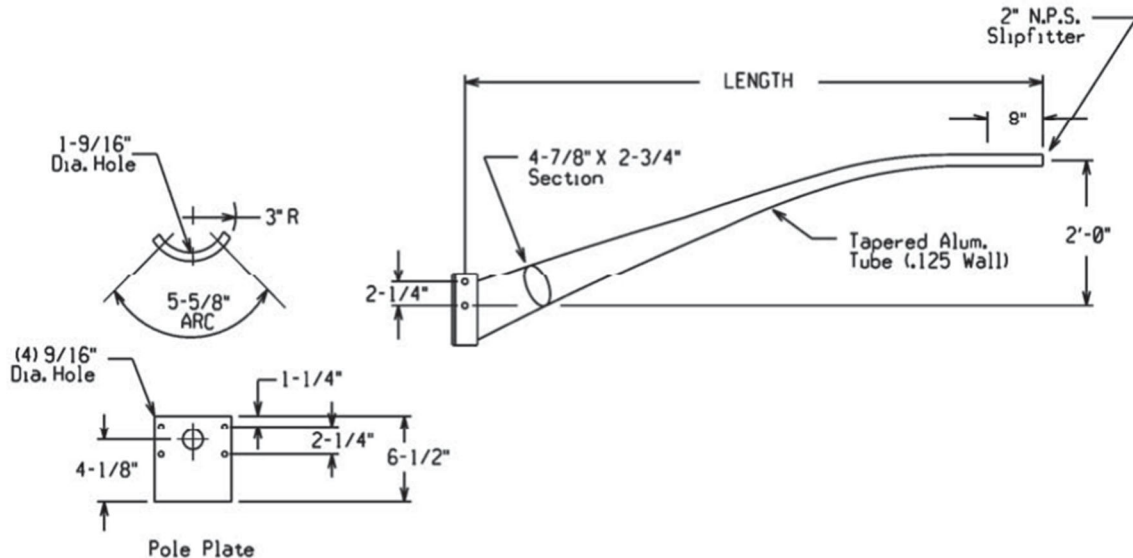

Figure 1 – Tapered Elliptical Aluminum Arm
2. SPECIFICATIONS - All aluminum streetlight arms for aluminum pendant poles shall conform to the following specifications, including Figures 1 and 2 and Table I.
General - Arm, streetlight, aluminum, for installation on aluminum pendant pole. Arms shall be in accordance with Figures 1 or 2, and Table 1.